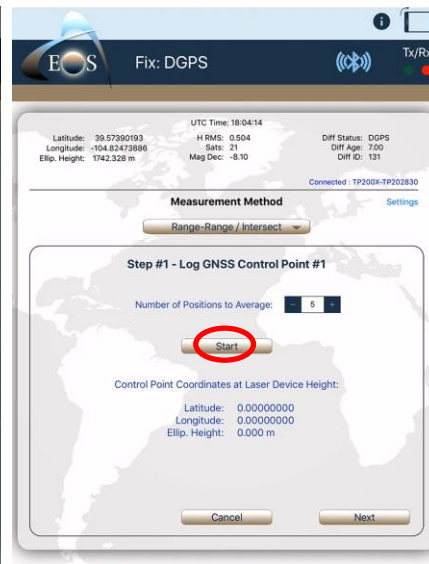

Figure 10A
- 10A. **Step #1:** Confirm the Number of Positions to Average is correct, tap **Start** (Figure 10A) and when the GPS data is recorded, tap **Next**